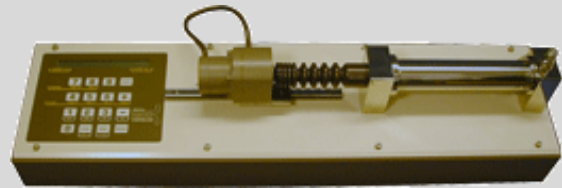

Fig. 8 1000cc Advanced Pressure/Volume Controller (ADVDP)
- 1000cc Advanced Pressure/Volume Controller (for application of pore air pressure and measurement of air volume change) as in Fig. 8.